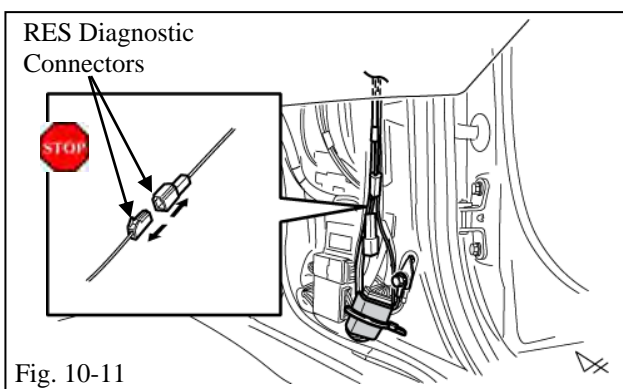

Fig. 10-11
- Disconnect the V4 harness' White 1P Connector from the Passenger's Side Cowl Area. (Fig. 10-11)